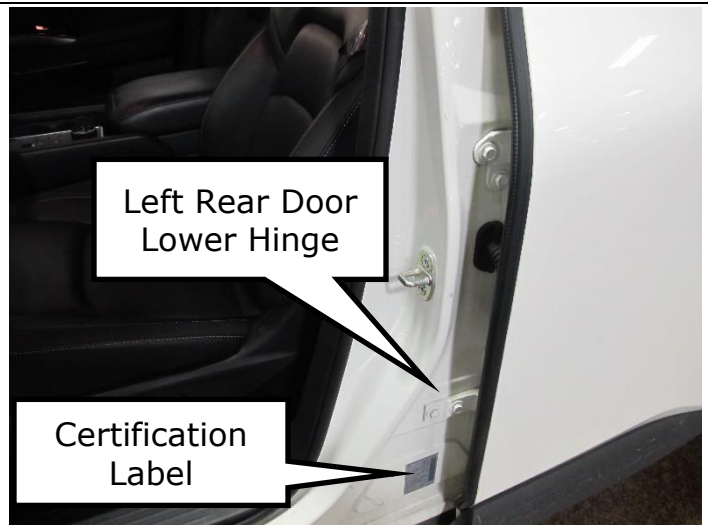

Figure 1
2. Locate left rear door lower hinge (Figure 1).